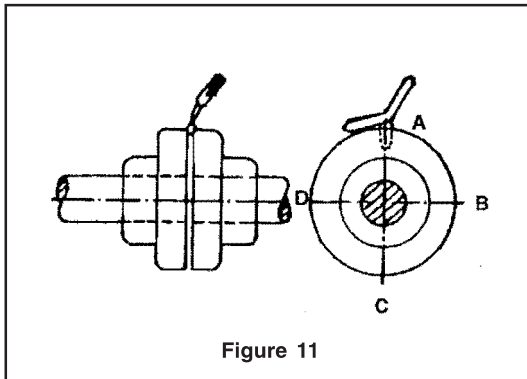

Figure 11
- 2.5.2. Angularity error should be corrected by using feeler gauge shown in figure 11 and arriving at a constant gap measures every 90 deg. of rotation of the coupling halves simultaneously. Difference between clearances measured at opposite positions should be less than 0.25mm/100 mm outside diameter of coupling.